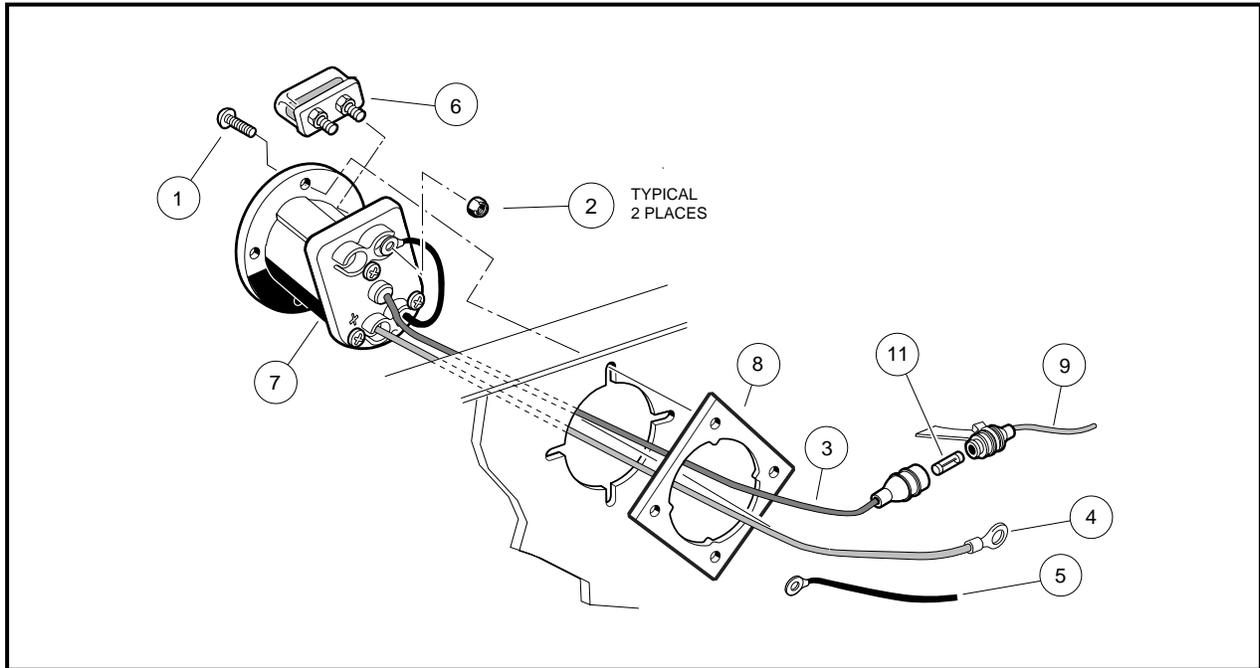

Figure 12-9 Charger Receptacle
2. Remove the 10 gauge red wire (4) from the positive post of battery No. 1 (**Figure 12-9, Page 12-13**).
3. Remove black 10 gauge OBC wire (5) from charger receptacle assembly (**Figure 12-9, Page 12-13**).
4. Disconnect the gray wire (9) from the receptacle at the yellow fuse holder (**Figure 12-9, Page 12-13**).
5. Remove the four screws (1) that secure the charger receptacle bezel (7) to the receptacle backing plate (8) and to the vehicle body (**Figure 12-9, Page 12-13**).
1. Insert the 10 gauge red wire (4) and the 18 gauge gray wire (3) through the hole in the vehicle body and the receptacle backing plate (8) (**Figure 12-9, Page 12-13**).
3. Install the four screws (1) that secure the receptacle assembly to the vehicle body and receptacle backing plate (8). Tighten screws to 11 in.lb (1.2 N-m) (**Figure 12-9, Page 12-13**).
4. Connect 18 gauge gray wire (9) to yellow fuse holder. Make sure fuse (11) is installed in fuse holder.
5. Connect the 10 gauge black wire (5) to the receptacle fuse link (6) on the charger receptacle assembly (**Figure 12-9, Page 12-13**).
6. Connect the 10 gauge red wire (4) to the positive post of battery No. 1.
- DO NOT BY-PASS THE SENSE LEAD FUSE (11) ON THE RECEPTACLE WIRE (3) (**FIGURE 12-9, PAGE 12-13**).
1. Remove the fuse link assembly (6) from the charger receptacle (7) by removing the two lock nuts (2) used to secure the 10 gauge black wire from the computer and the 10 gauge black wire (5) to the receptacle (**Figure 12-9, Page 12-13**).
2. Remove the fuse link (6) from the charger receptacle (**Figure 12-9, Page 12-13**).
3. Install nuts (2) on fuse link mounting posts and tighten to 19 in.lb (2.1 N-m) (**Figure 12-9, Page 12-13**).